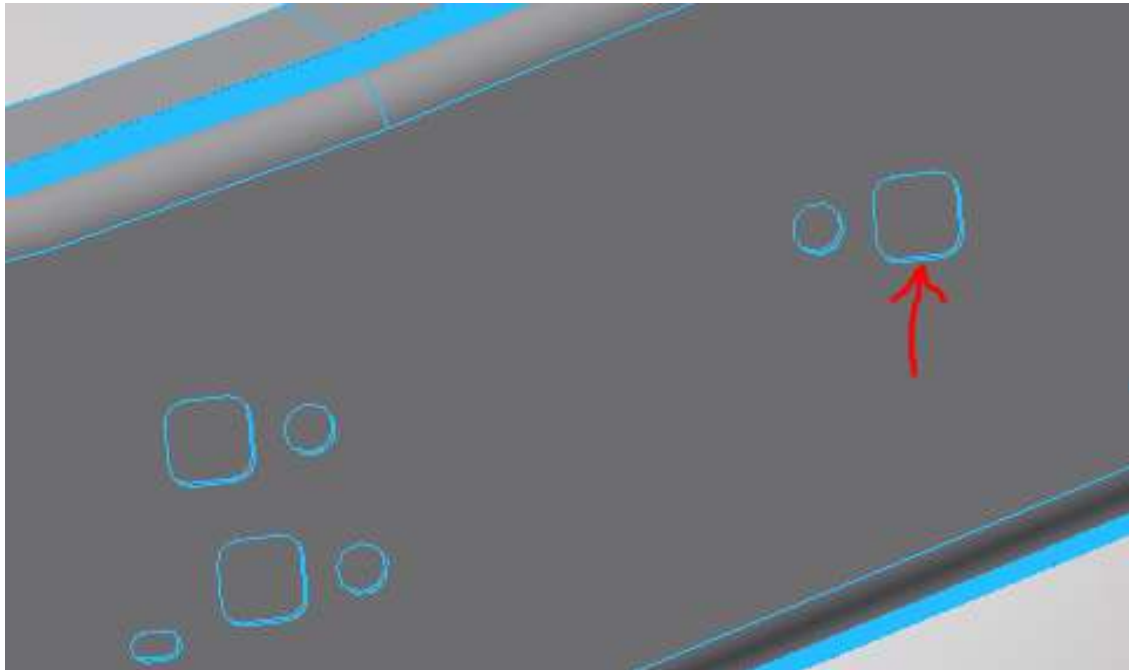

Figure 1
1. Remove fuel cooler from inside frame. Hoses should not have to be removed, just bolts taken out to be free of the frame. Use one of the existing mounting points for our bracket. Clip will need to be removed from square hole. See (Fig.1) for location.